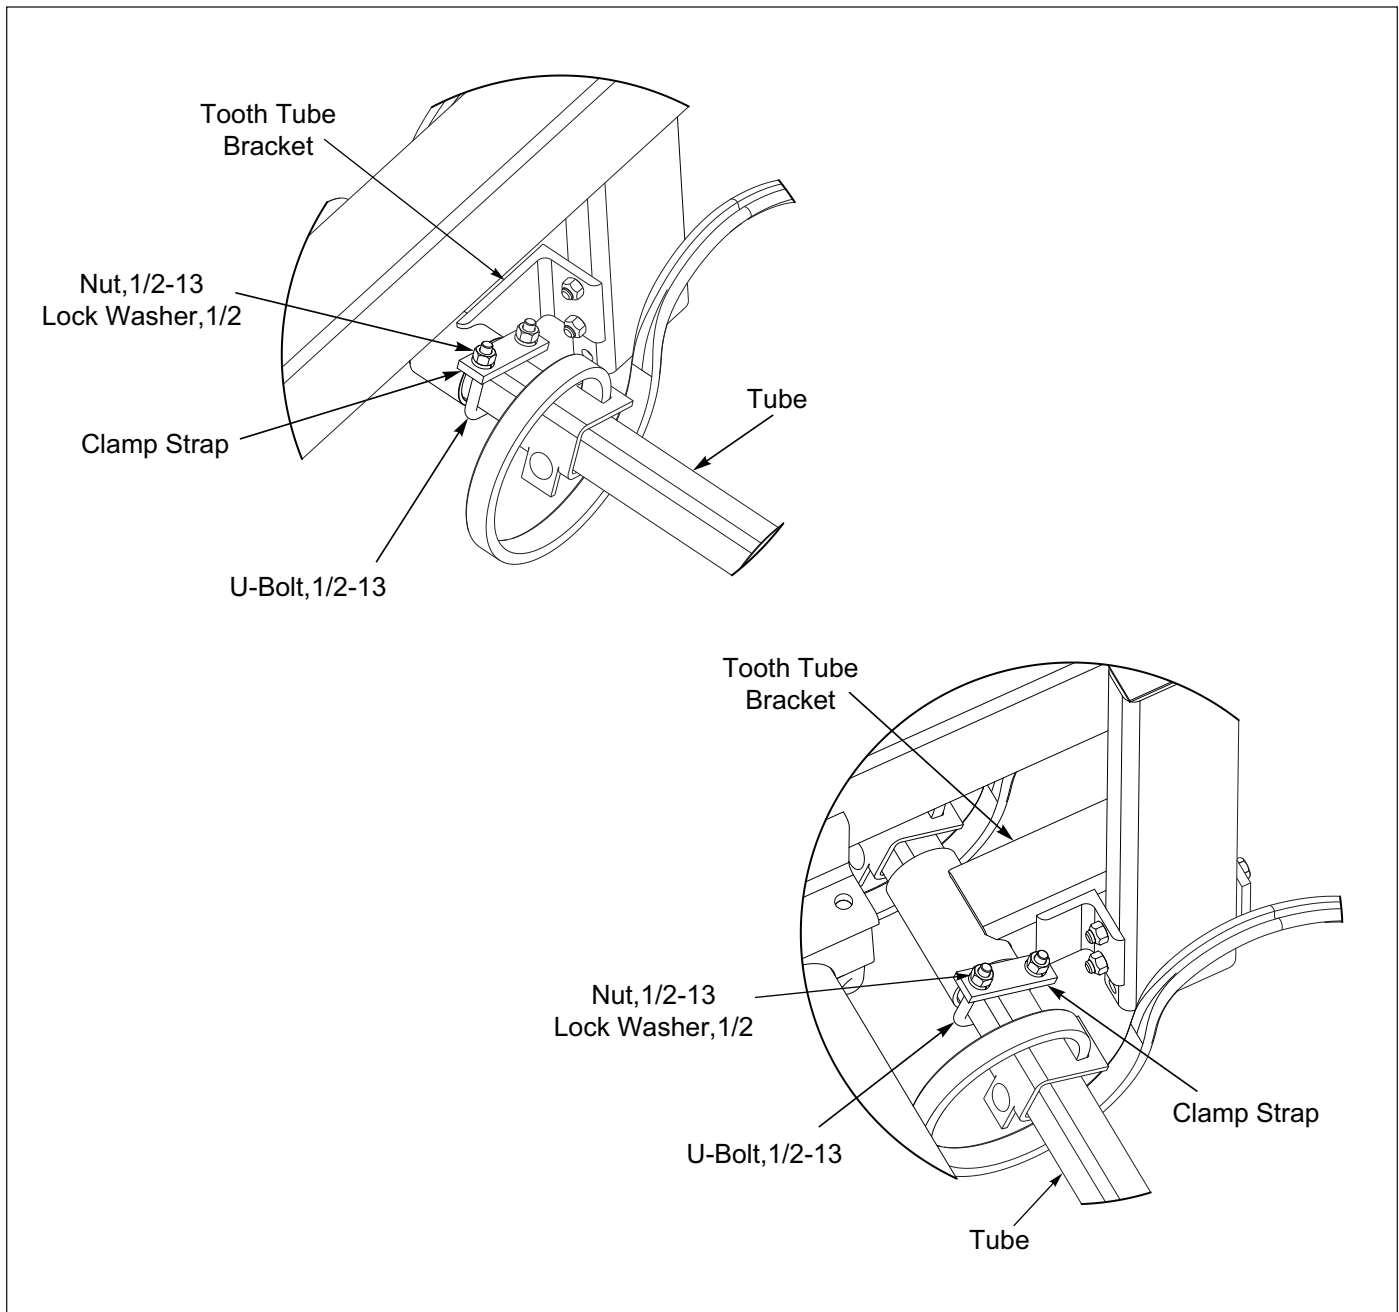

Figure 2-11: Fixing the Tubes in Place
3. Fix the tooth tubes in place by assembling Clamp Straps on the inside of the each outer Tooth Tube Bracket. Secure with 1/2-13 U-Bolts, Lock Washers and Nuts. **See Figure 2-11.**
3. Fix the tooth tubes in place by assembling Clamp Straps on the outside of each front tooth tube bracket and on the inside of each rear tooth tube bracket. Secure with 1/2-13 U-bolts, Lock Washers and Nuts. **See Figure 2-11.**